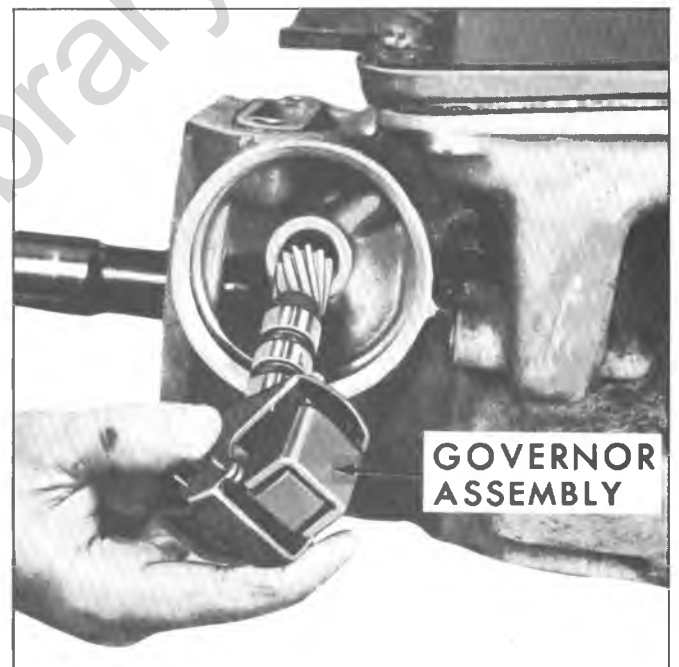

Fig. 8M--Removing Governor from Case
8. Withdraw governor assembly from case (fig. 8M) and check governor bore and governor sleeve for scoring.